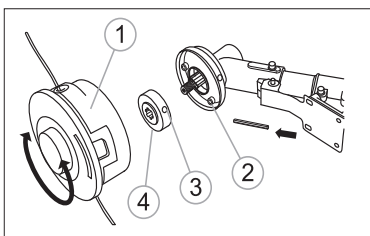

fig. 6
2. Holding the rod in the holes 2 and 3 cups of the gearbox and the flange washer 4, spin the spool with the line counterclockwise until it stops (fig 6).